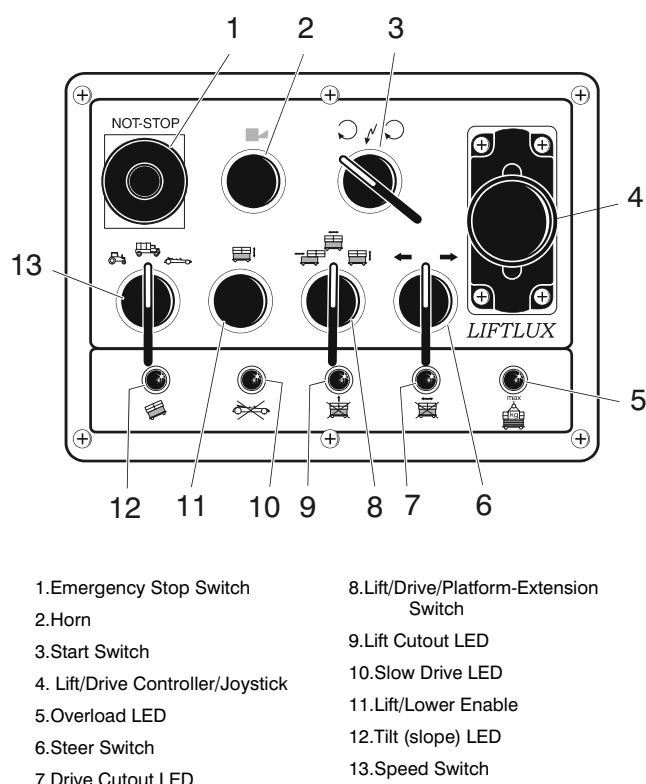

Figure 5-2. Platform Control Station
THE PROPER FUNCTIONING OF EACH OF THE LIMIT SWITCHES IS VERY IMPORTANT FOR THE SAFE USE OF THE EWP. THEREFORE, THE LIMIT SWITCHES MUST BE CHECKED BEFORE OPERATING THE MACHINE EACH DAY. TO MAKE THIS TASK EASY, CONTROL LED'S FOR EACH IMPORTANT FUNCTION (SWITCH) ARE FITTED ON THE CONTROL PANEL (SEE FIGURE 5-2.).
- Located on the control panel is the **Lift/Drive/Platform Extension - Switch** (#8 in Figure 5-2.), which switches between the lift-lower mode, the drive mode, and the platform extension mode. The platform extension, as well as, the drive function will be controlled by the same controller (joystick) (#4) depending on the position of the selector (#8). Steering left/right are controlled by the thumb switch on top of the controller. Steering is prohibited when the machine is in either lift/lower or platform extension mode.